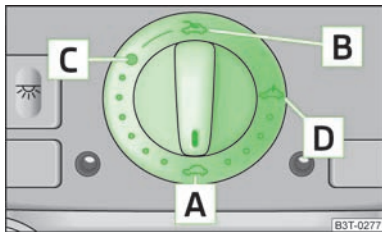

Fig. 27
The sliding/tilting roof is operated by means of the control dial » Fig. 27 and only functions when the ignition is switched on. The control dial has several positions.
- > Turn the switch to position **C** » Fig. 27.
- > Turn the switch to position **A** » Fig. 27.
The sliding/tilting roof is fitted with a force limiter. If an obstacle (e.g. ice) prevents closing, the sliding/tilting roof stops and opens completely. The sliding/tilting roof can be closed completely without the force limiter by turning the switch into position **A** » Fig. 27 at the front for as long as it takes for the sliding/tilting roof to close completely » **!**
It is necessary after each emergency operation to move the sliding/tilting roof into the basic position. This is why the rotary switch must be set to the switch position **A** » Fig. 27 and pressed forward for about 10 seconds.